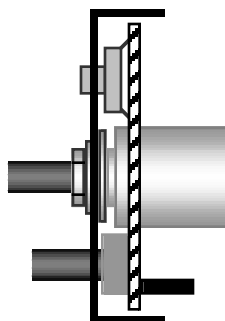

Figure 5-12
- Insert the Front Panel PC board assembly into the front panel (Figure 5-12). The push-button switch caps should protrude slightly.